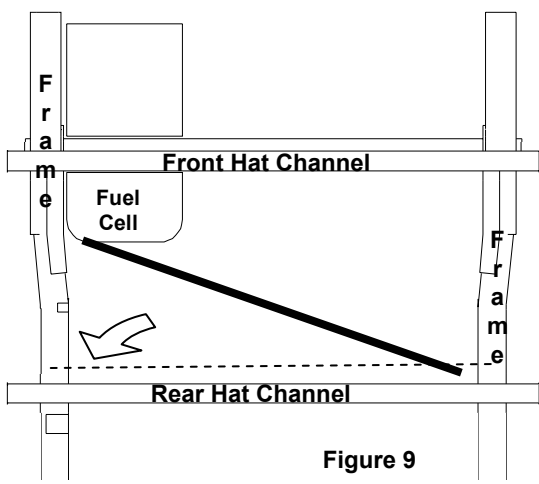

Figure 9
7. Insert rails as shown in the following steps (**FIGURES 9 through 14**). Rear (short) rail should be inserted first flat side up. Front (long) rail inserted second flat side up. **Option:** Remove bed bolts and lift truck bed. Slide rails in from one side of truck. Reinstall bed bolts.